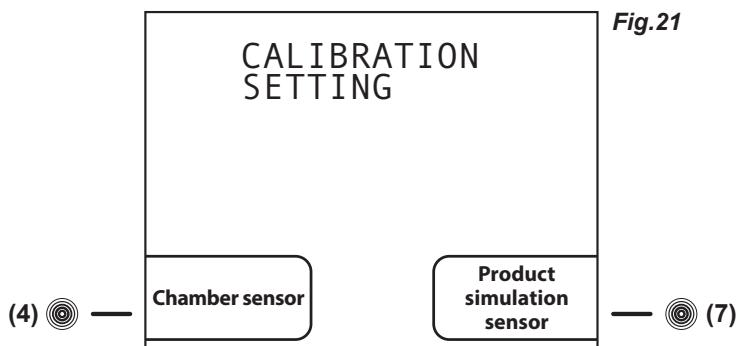

Fig.21
From this menu is possible to manually calibrate 2 sensors of the appliance. The Chamber sensor is the one acquiring the temperature into the appliance, while the Product simulation sensor (optionally available) simulate the temperature of the products stored into the appliance with a ballasting of 250 ml of water (or anti-freezing liquid). Through this menu is possible to adjust the reading of the sensors according to reading of external comparison thermometers, data loggers, thermocouples or personal wishes. To access to the CALIBRATION SETTING (**Fig.21**), press the **touch-button (6)** while the display shows the second page of the setting menu (**Fig.16**).